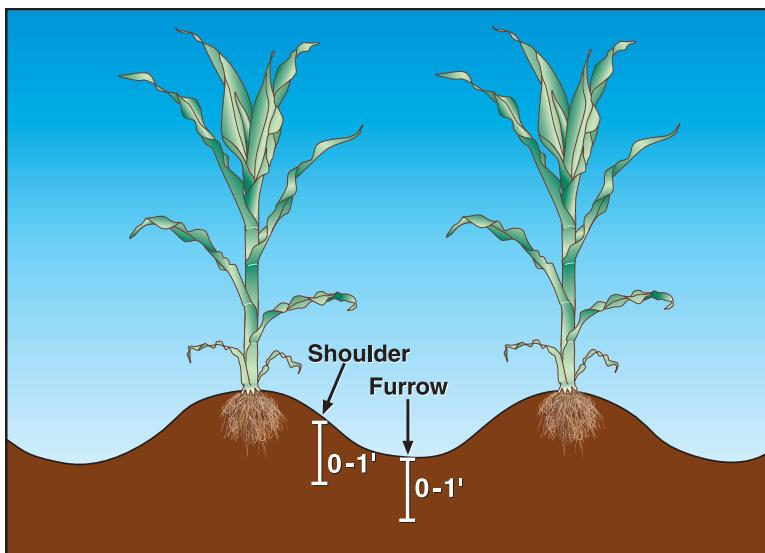

Figure 20. Pre-sidedress nitrate test (PSNT) sampling positions.
- Equal numbers of samples should be taken from the furrow and the shoulder of the bed about four inches from row, (Figure 20). Avoid previously applied fertilizer in bands, especially on minimally tilled soils.